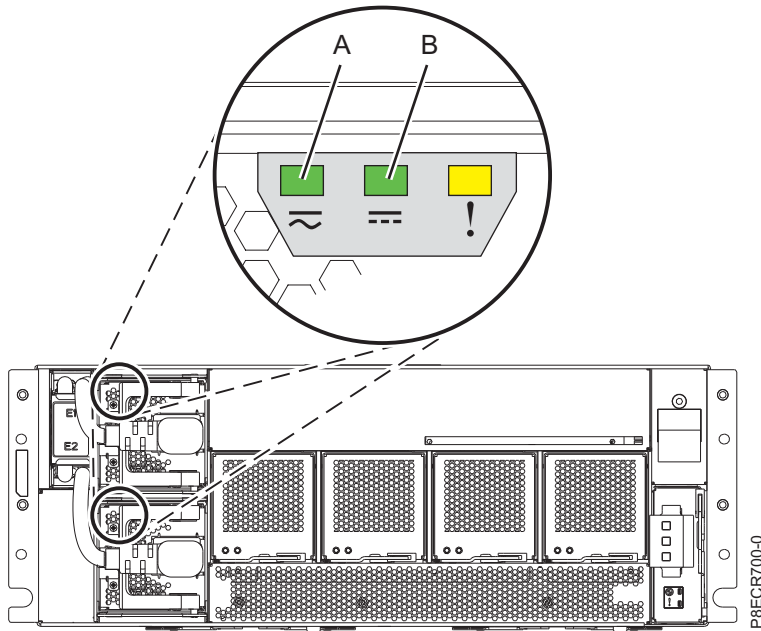

Figure 27. Verifying the power supply LEDs are on
1. Ensure the input power LED (A) on the power supplies is on. See Figure 27.